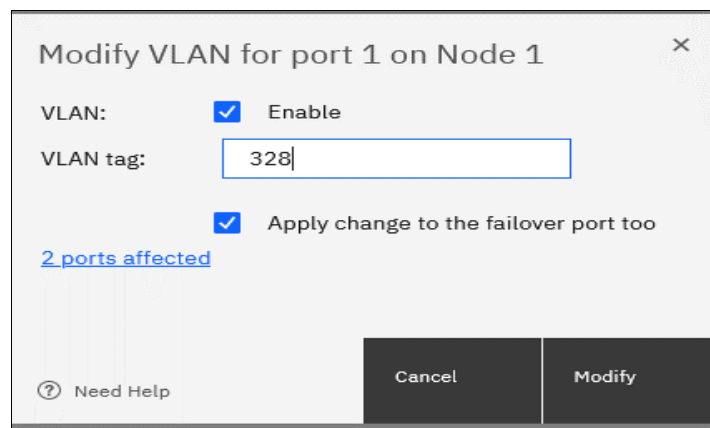
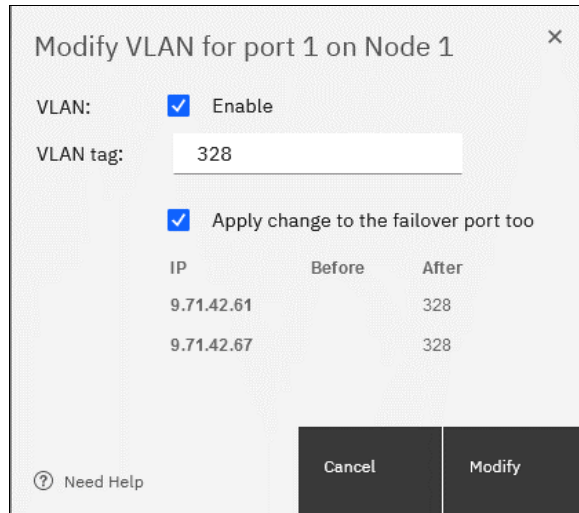

Figure 7-19 VLAN settings modification interface
Figure 7-20 VLAN settings: Details
11. As a best practice, it is always good to isolate iSCSI traffic in a separate subnet. It is also possible to set a virtual local area network (VLAN) for the iSCSI traffic. To enable the VLAN, select **Actions** → **Modify VLAN**, as shown in Figure 7-19. The system informs you that at least two ports will be affected by change. To see the details about the effect, click **2 ports affected** (see Figure 7-20 on page 429). Make any necessary changes and click **Modify**.